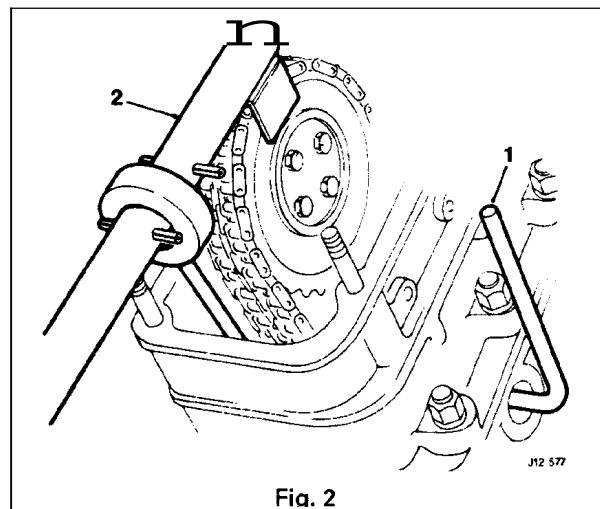

Fig. 2
- Remove the rubber grommet from the front of the right-hand timing cover and insert Service Tool JD 50 (Release Tool) (1 Fig. 2), and release the locking catch on the timing chain tensioner.
- Fit Service Tool JD 50 (Chain Tension Retainer) (2 Fig. 2) and retract the timing chain tensioner until the locking catch is engaged.